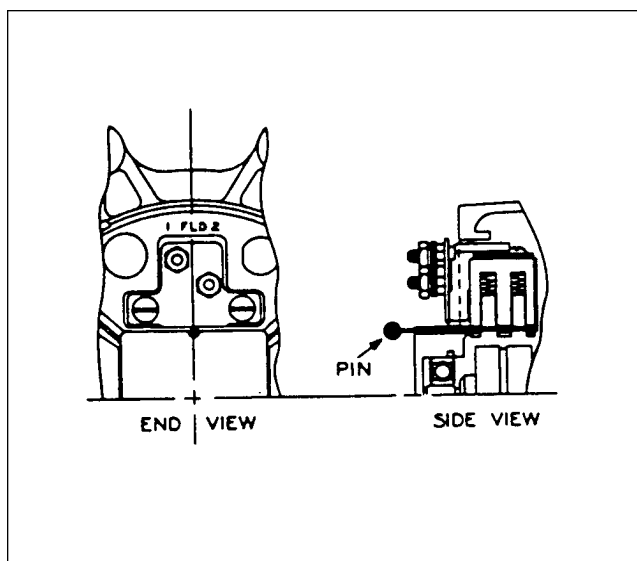

Figure 24-40. Brush Installation
3. Brushes: These units have a separate brush holder assembly that is installed after the alternator has been assembled. The brush holder has a small hole that intersects the brush cavities. Use a pin or a piece of wire, as shown in figure 24-40 to hold brushes in holder during assembly. Remove pin after brush holder retaining screws have been tightened. Make a continuity check to be sure brushes are seated against slip rings.